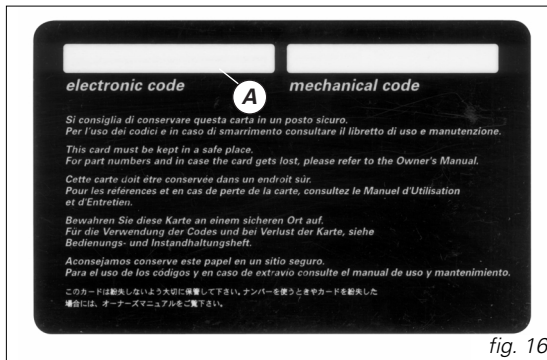

fig. 16
A) (fig. 16) the electronic code to be used in case of engine block, i.e. bike did not start after **key-ON**.